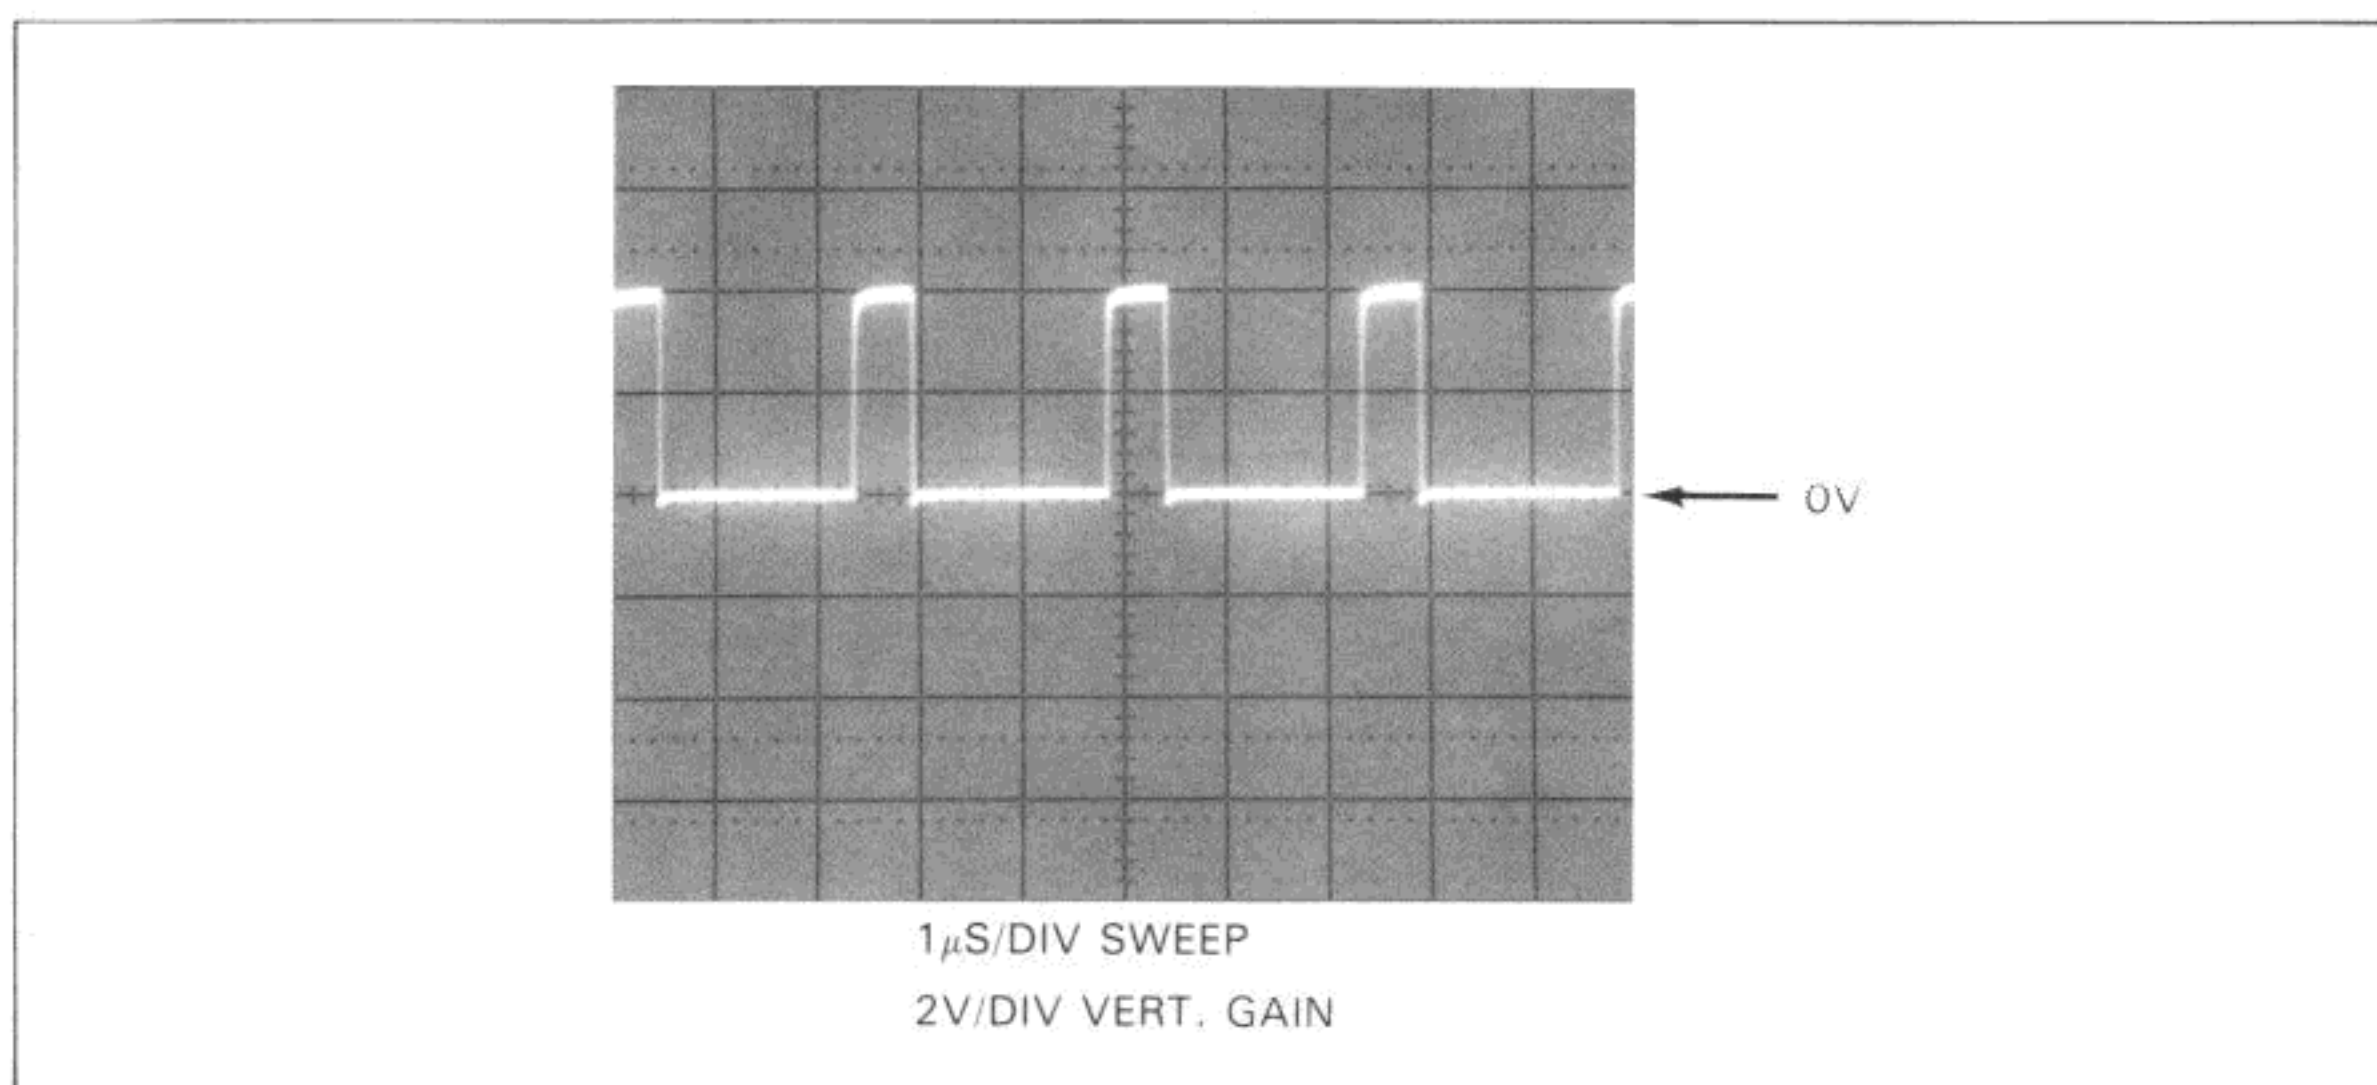

Figure 4-8-4. ALE at U804 pin 11
2. Set an oscilloscope to $1\mu\text{S}/\text{div}$ sweep time and $2\text{V}/\text{div}$ vertical gain. Check ALE at U804 pin 11 for the waveform shown in Figure 4-8-4. MANUAL.